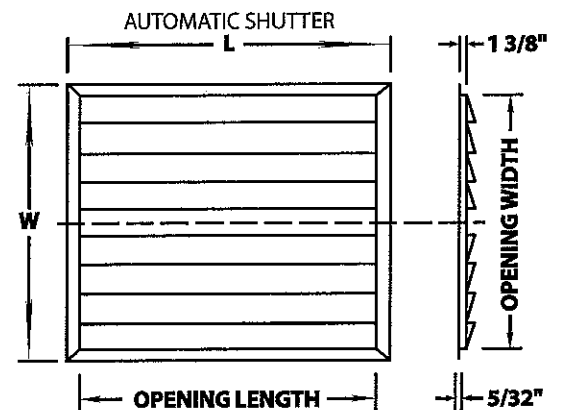

Figure 4
FOR NO JOIST CUT “DO IT YOURSELF” INSTALLATION USING THE SL SERIES SHUTTER LISTED IN THE SPECIFICATIONS. (See Fig. 4)
1. First check the ceiling shutter being used to determine the size of the required ceiling opening. This should be specified by instruction or a template supplied with the shutter. Note that either the CS series shutter or the SL series of Figure 4 may be used for this type of installation.